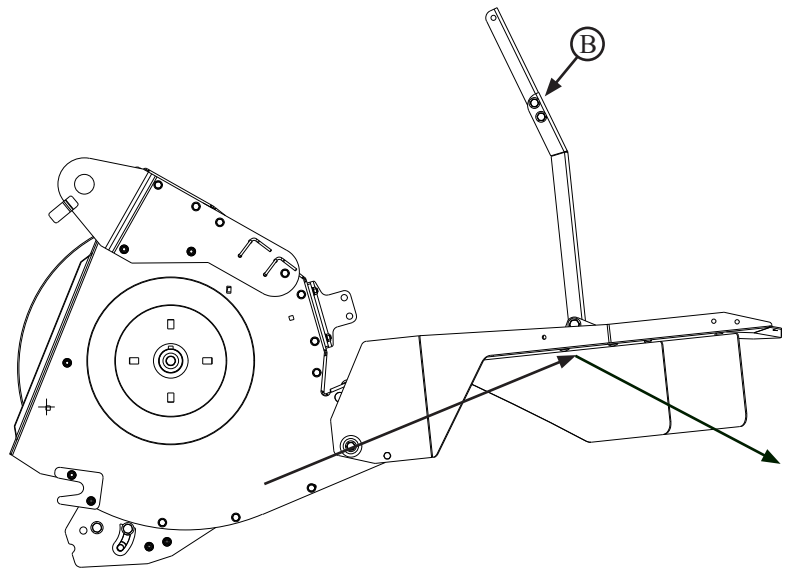

Figure 2
2. To deflect residue material downwards, position tailboard to Figure 2. Use lower arm hole (B)